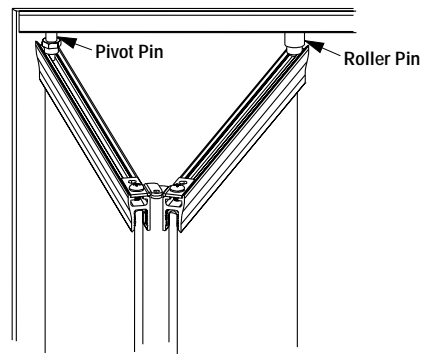

Figure 3
Step 1. Starting with either the right or left door assembly. Engage the hinge pin into the upper frame hole. The roller pin must be positioned within the upper door guide track (Figures 3 and 4).